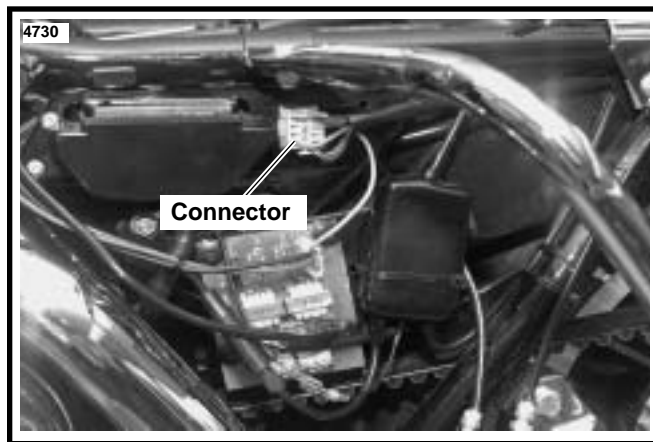
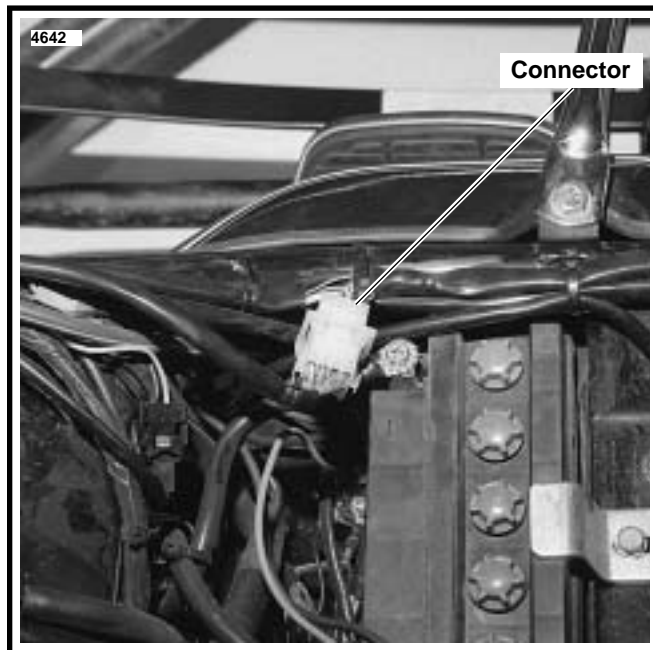

Figure 12. 1992 and Earlier Connector Location (Left Side Cover Removed)
Figure 17. Connecting Sidecar Harness - 1993 Shown
2. See Figure 12. Separate socket housing from pin housing mounted in panel under left side cover.
6. See Figure 12. On 1992 and earlier vehicles, press the eight pin housing into the mounting hole in the metal panel under the side cover. Enlarge the hole to fit the eight pin housing, if necessary. See Figure 17. On 1993 vehicles, the connector is under the seat.
See Figure 12. Connect 8-place rear lighting connector, [SC22B to 22A] and lighting connector, [SC22A to 22B].
See Figure 17. Connect the two 8-place connectors, [SC15A to 15B] and [SC15B to 15A].
Figure 17 shows a 1993 vehicle, but the connector [SC15A, B] is in the same location for the 1991-1992 vehicles.